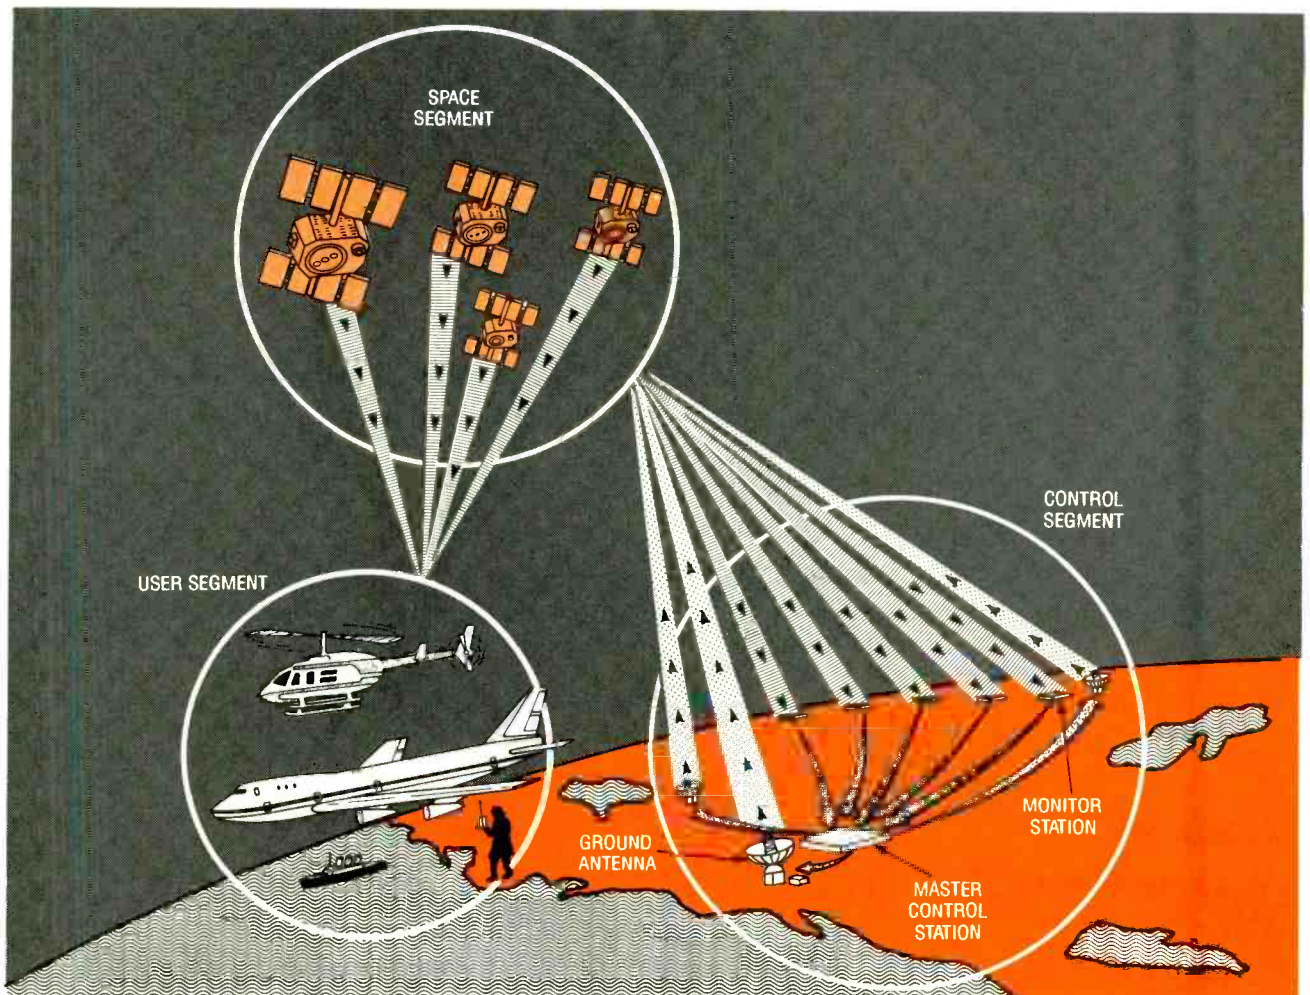

Fig. 1. The GPS navigation system consists of three segments, Space, Control, and User.
Measuring the performance of a unit such as the Carver DPL-33 is a bit tricky, since with similar signals applied to left and right inputs, (in effect, mono), no outputs will be decoded for the surround channels. Still, by tailoring our input signals for specific tests, we were able to plot some response and power output results graphically. Figure 1 shows the frequency response obtained for the front channels when L-only and R-only signals are applied to the Line Input jacks. Response was virtually flat, exhibiting approximately 0.5-dB roll-off at 20 Hz and -0.3 dB at 20 kHz. When equal signals are applied to the line inputs, a center-channel output appears, as one would expect, even when in the Dolby Surround mode. In this mode, response is flat from around 200 Hz all the way out to 20 kHz, but a deliberate bass roll-off is introduced. This tends to add clarity and
Fig. 1. The frequency-response plots obtained for the front channels when L-only and R-only signals were applied to the Line Input jacks shows the response to be virtually flat.
**The GPS System.** GPS consists of three major segments, Space, Control, and User, as shown in Fig. 1. The Space Segment is the constellation of GPS satellites. When the system is fully implemented, the constellation will consist of 24 satellites—21 operational and three spares. As of this writing, 17 satellites are in operation. The